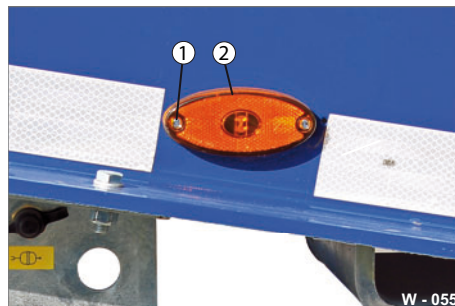

Fig. 55 Side marking light
- ▶ Loosen the fixing screws (Fig. 55/1).
- ▶ Remove the LED light (Fig. 55/2) - remove connection.